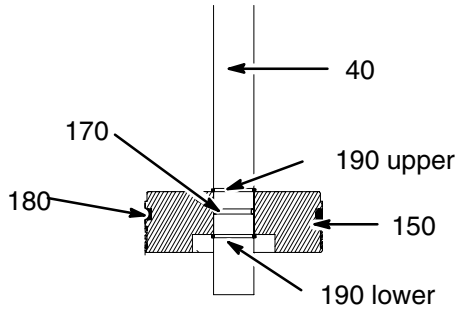

Fig. 22
11. Service the lift-rod piston (Fig. 22):
- b. Remove the piston (150) from the lift rod (40) and inspect it for damage or wear. Replace it with a new one, if necessary.
- c. Remove the 2 old o-rings (170) and (180) in Fig. 22) from inside and outside the piston. Replace the o-rings with new ones.
- e. Put the piston (150) back onto the lift rod (40). Position the piston against the upper retaining ring.
- f. Snap the lower piston retaining ring (190) back into its groove, between the bottom of the piston and the end of the lift rod.
12. Re-insert the lift rod (40) into its cylinder.